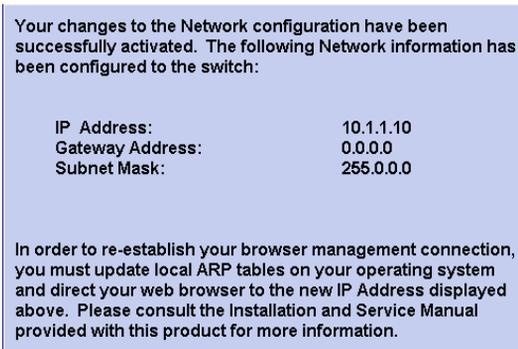

Figure 2–7: Network information message box
3. Click **Activate** to save and activate the changes. The following message box displays (Figure 2–7).